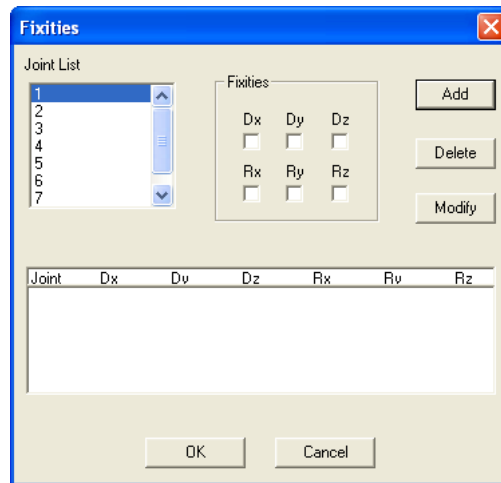

Figure 3-20 Fixities dialog box
- From the **Process** menu, select **Fixities**. The dialog box of Figure 3-20 appears. Some options may not be available depending on the structure type selected.